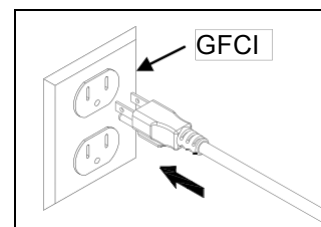

Fig. 6
7. Test the initial flow of the fountain by connecting the power cord to a properly grounded receptacle. Once the pump is plugged in the water will begin to flow. If water splashes, unplug the power cord and adjust the flow control knob counterclockwise on the water pump. Fig. 6 & 7.